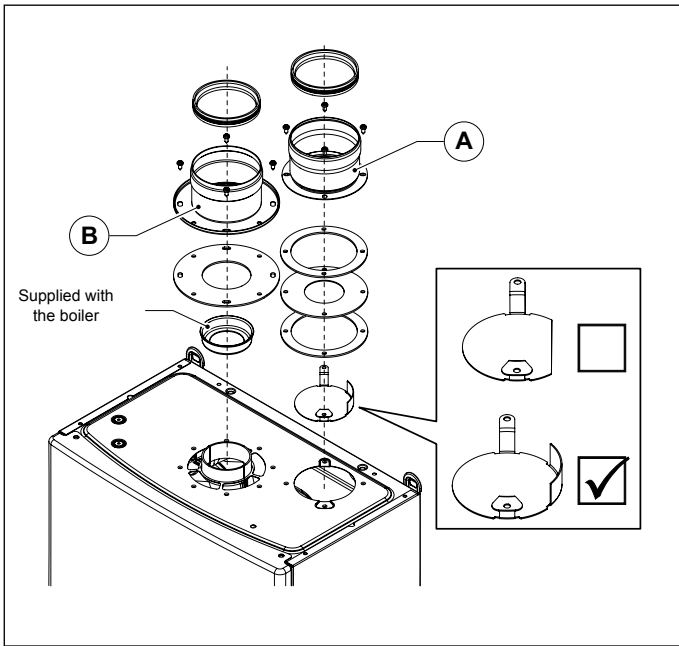

Fig. 8 0SDOPPIA13
- Install the specific air deflector (see Fig. 8 OSDOPPIA13).